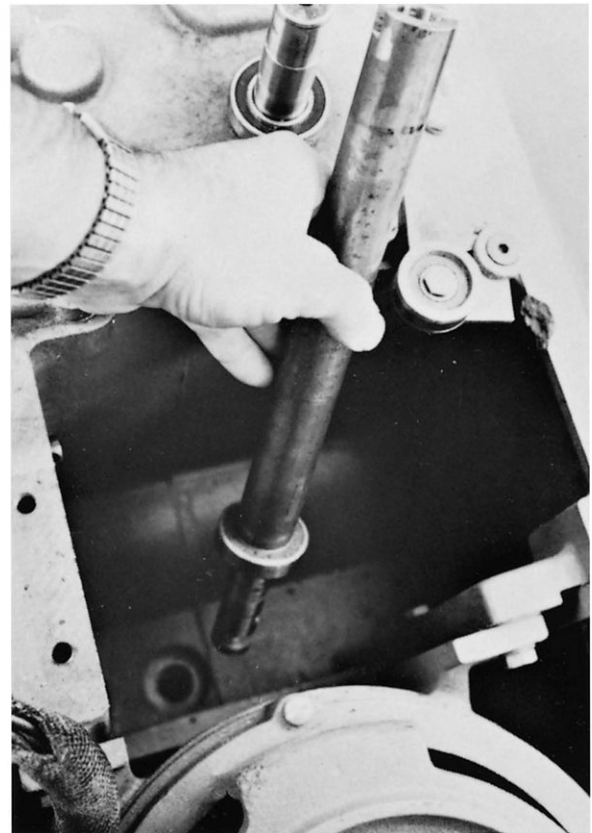

Fig. 12-9
F. Remove the lift screw extension shaft (Fig. 12-9) from the mixer.